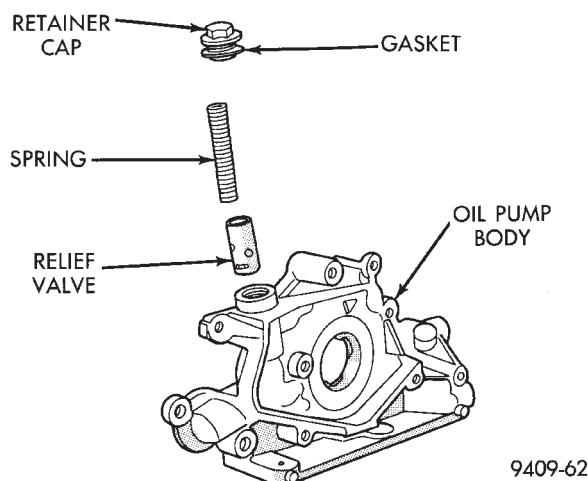

Fig. 85 Oil Pressure Relief Valve
(1) To remove the relief valve, proceed as follows:
(2) Remove the threaded plug and gasket from the oil pump (Fig. 85).
CAUTION: Oil pump pressure relief valve must be installed as shown in (Fig. 85) or serious damage may occur.
(3) Remove spring and relief valve (Fig. 85).